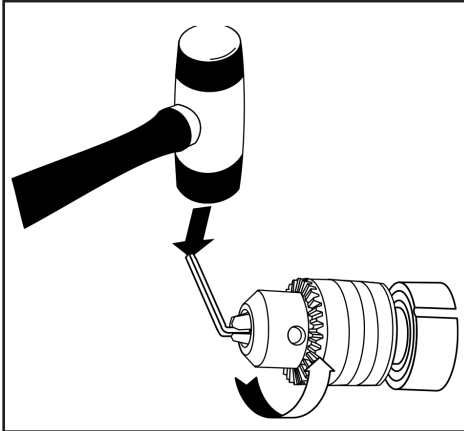

Fig.10
2. Insert a 5/16" (8 mm) or larger hex key (1) into the chuck (2) and tighten the chuck jaws securely (Fig. 10). Make sure each of the chuck jaws (3) is seated on the flat surfaces of the hex key.
3. Tap the hex key sharply with a mallet (4) in a clockwise direction. This action will loosen the screw in the chuck for easy removal.